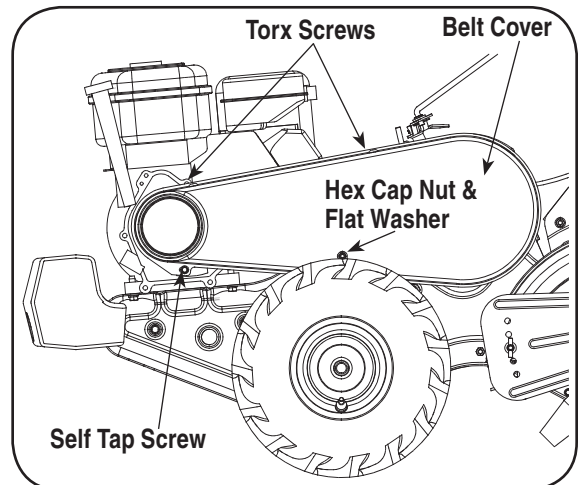

Figure 7-1
- Remove the belt cover from the left side of the tiller by remove two torx screws from the top of belt cover. See Figure 7-1.